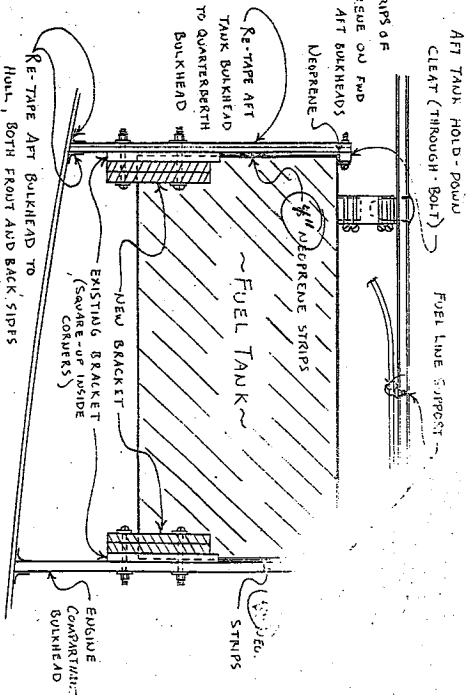

FIG. 2
10. Remove the tank from the forward bracket and through-bolt the forward fuel tank hold-down cleat (3/4" x 1 1/2" x 12" mahogany) to the bulhead as shown in Fig. 2. Use four 1 3/4" x 10-24 stainless steel round head machine bolts. Be sure to make allowance for the neoprene padding on the cleat.
2. Through-bolt one of the fuel tank brackets to the existing bracket on the engine compartment bulkhead. See Fig. 2. Use six 2½" x 10-24 bolts.
3. Through-bolt the other fuel tank bracket to the existing bracket on the aft fuel bulkhead in the same manner. See Fig. 2.
4. Draw a line indicating the top edge of the fuel tank on the aft fuel tank bulkhead. Through-bolt the aft fuel tank hold-down (7/8" x 3/4" x 12" mahogany) to the aft fuel tank bulkhead as shown in Fig. 2. Use four 1 3/4" x 10-24 stainless steel round head machine bolts. Be sure to make allowance for the neoprene padding on the cleat.